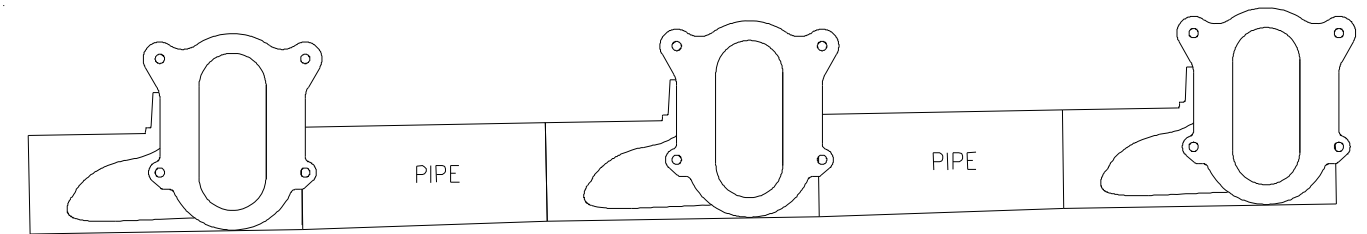

Fig. 2
2. Join pipe lengths to fittings ensuring all fitting faces are parallel. See Fig. 2